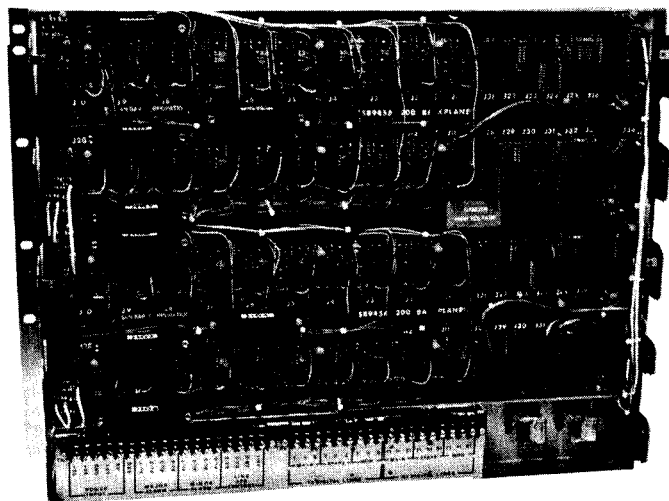

FIG. 4 SB945B-100 Rear View
- 4.14 External Voice Frequency connections are made from two, 25 pair, male Amphenol type connectors on the rear of the shelf.(Fig. 4)